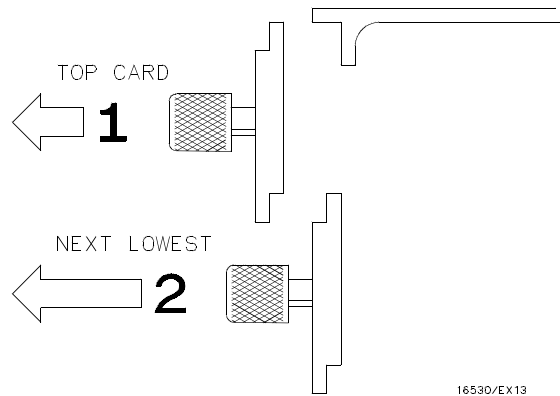

Figure 4-1. Endplate Overlap
- c. Starting **from the top**, begin pulling card(s) and filler panel(s) out **half way**. See figure 4-1.